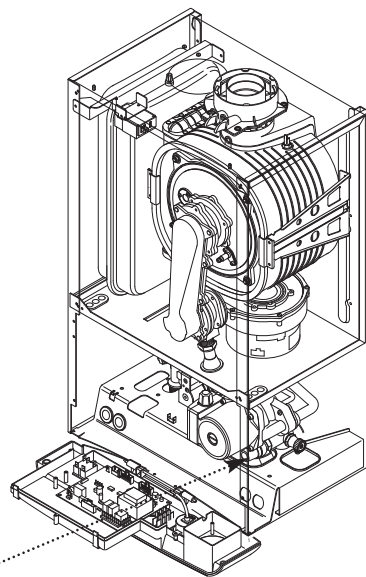

Fig. 4
6.6 Safety Pressure Relief Valve (Fig. 4)